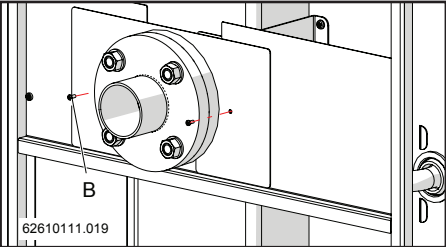
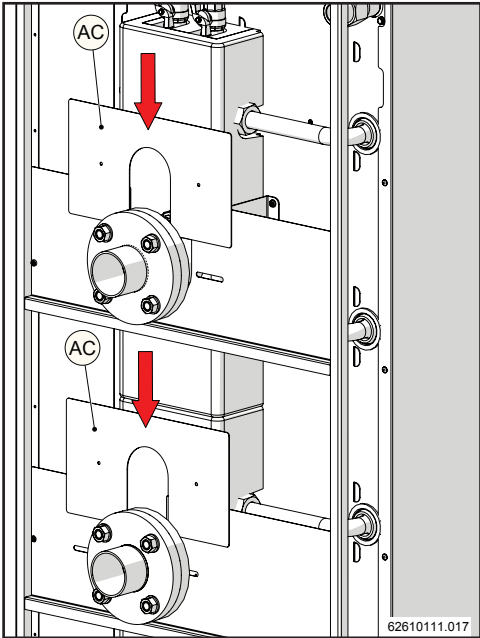
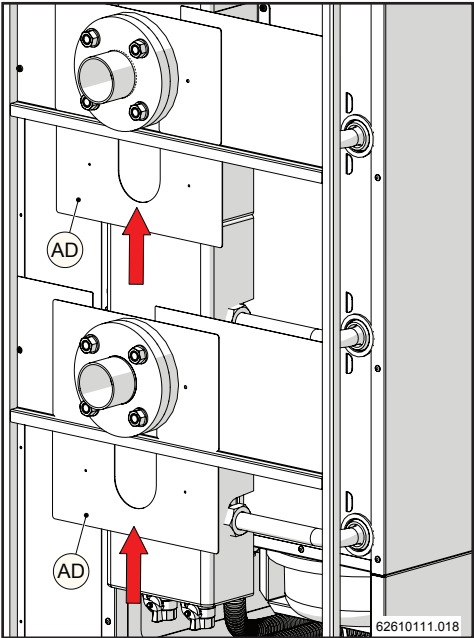
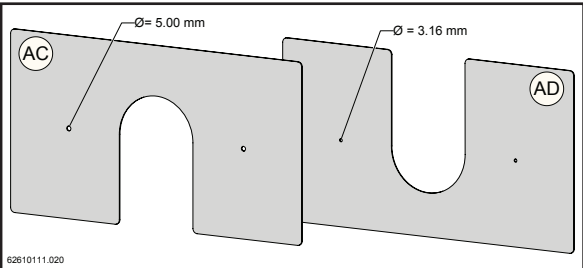

Figure 15-51
Figure 15-52
Figure 15-53
Figure 15-54
- 10.- Insert metal sheets (AC) and (AD) in figure 15-54 respectively in front of (figure 15-51) and behind (figure 15-52) the previously assembled metal sheets in the direction shown by the arrows. Then put in screws "B" as in figure 15-53.
ATTENTION: the metal sheets (AC) and (AD) include holes of different diameters (see figure 15-54). For correct assembly, position them in the ways described in point 10.